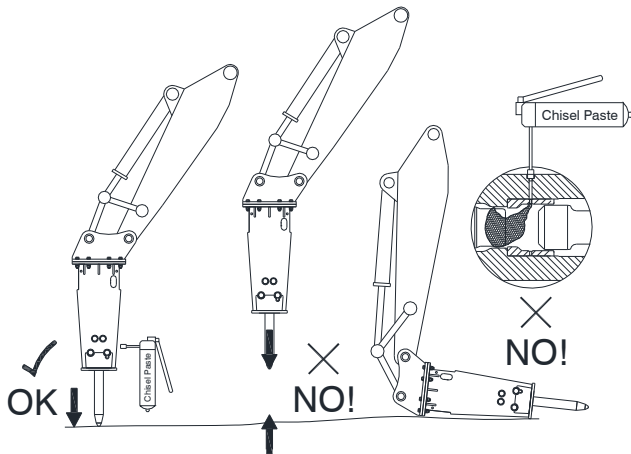

Fig 10-4 Correct and Incorrect Lubrication Positions
1. Figure 10-4. On stable and level ground, stand the breaker vertically and push the tool firmly against the ground. Engage interlock and shut off carrier.
Failure to follow proper re-lubrication instructions will result in equipment damage. At no time is it permissible to re-lubricate the tool with the breaker suspended off the ground or lying horizontally as shown in Figure 10-4. Insufficient seating of the tool against the thrust ring will risk grease by-pass into the impact chamber (the area where the piston strikes the tool). Formation of grease in this area can produce pressures that can dislodge seals.